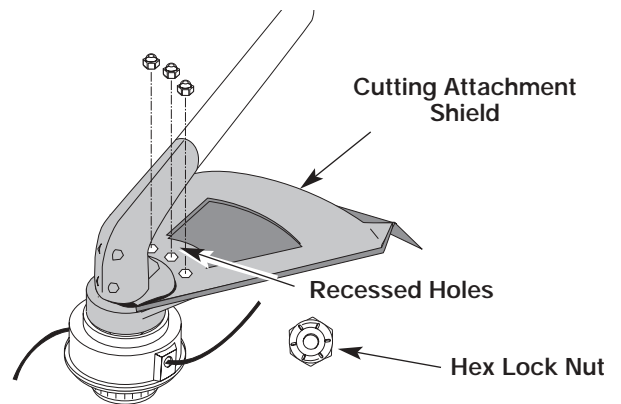

Figure 4
1. Slide the cutting attachment shield into the shield mount on the cutting attachment. Align the screw holes in the shield with the holes in the cutting attachment (Fig. 4).